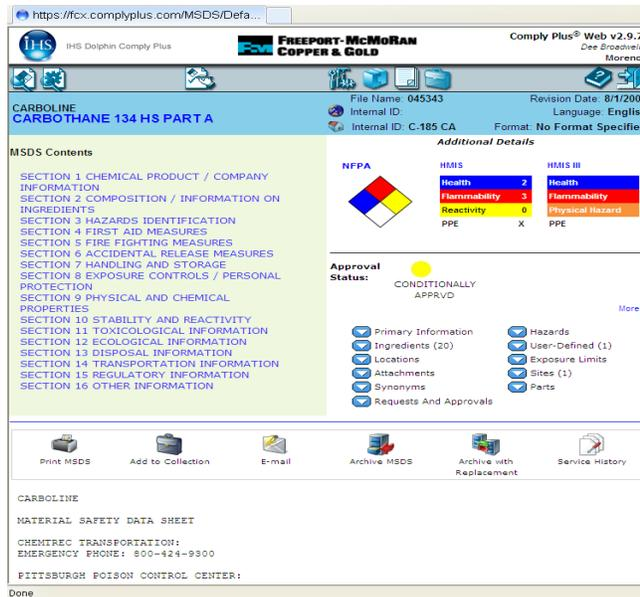

Figure 4
5. Then click on “Attachments” to view the approval sheet and print. To return to the Search page press the back button – the fields will clear and ready to enter new information. When the file is opened you have several options to review. The Menu in blue features (see Figure 4):